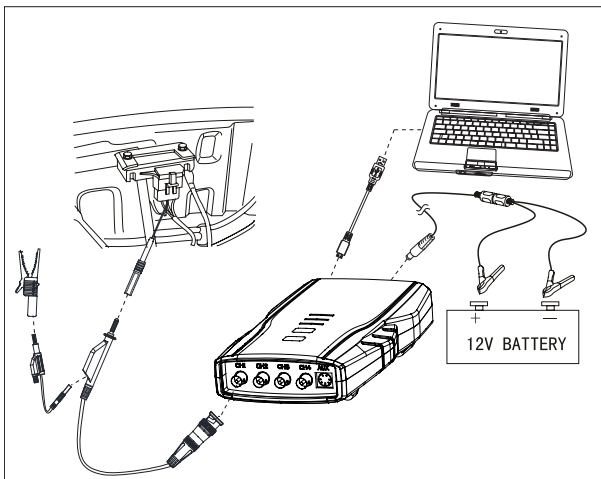

Fig. 6: MAP connect
1. Connect equipment according to Fig 6, switch on power supply;